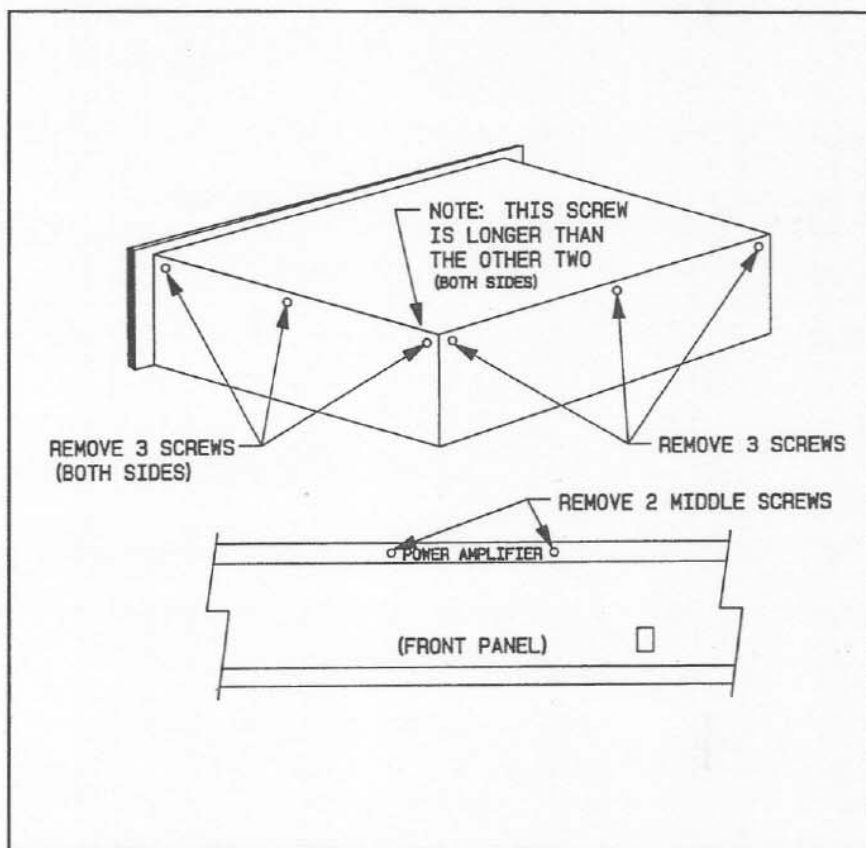

Figure 1 Top Cover Removal
2. Remove and save the eleven screws securing the top cover. There are three screws on each side and three along the top-rear edge of the chassis. In addition, you must remove the two innermost screws inset into the top bumper strip. Refer to Figure 1 for